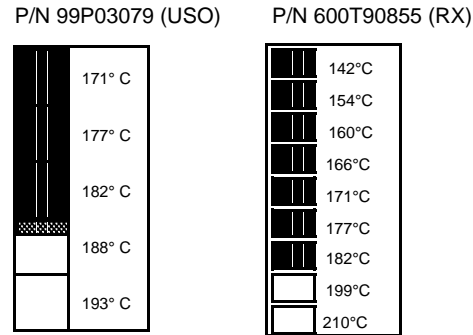

Figure 4. Temperature tape
11. Remove the fuser cleaning pad and examine the tape. The tape should have up to and including 182 ° C blackened out completely on both tapes (figure 4).